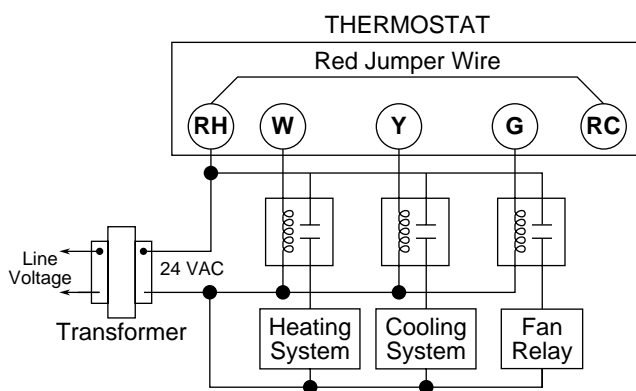

Figure 1. Wiring for single transformer systems
If you observe any or all of these conditions after installing thermostat, you can correct system operation by installing isolation relays between the thermostat and the electronic ignition module. Figures 1 and 2 show how three isolation relays can be installed [one each for the fan (G), heat (W), and cool (Y)]. You may not need to install all three isolation relays to correct the operation conditions.
Figure 1 shows a single transformer heating/cooling system, with isolation relays installed in the heating (W), cooling (Y), and fan (G) circuits. To simplify the diagram, limit and safety switches are not shown here, although they will be found either in the low or high voltage circuit. Limit and safety switches **must be retained**. Refer to the equipment manufacturer's system wiring diagram for the location of limit and safety switches.